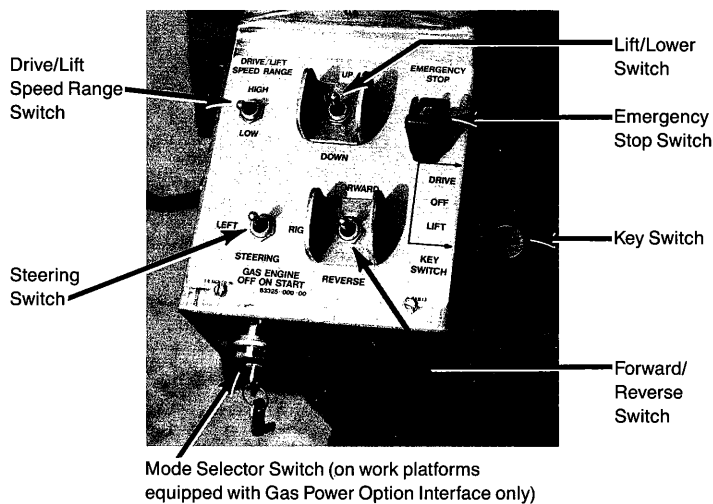

Figure 6. Control Console
2. Turn mode selector switch (Figure 6) to "START". When engine starts, allow key to return to "ON" position.
2. Use tie down lugs to secure work platform for transport (Figures 6, 7 and 8).